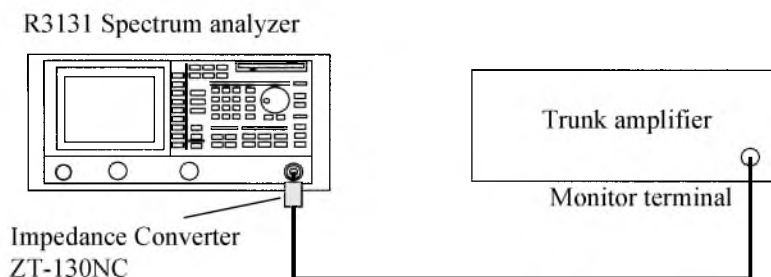

Figure 2-69 Setup for Measuring the VA Ratio
1. Connect the trunk amplifier as shown in Figure 2-69.